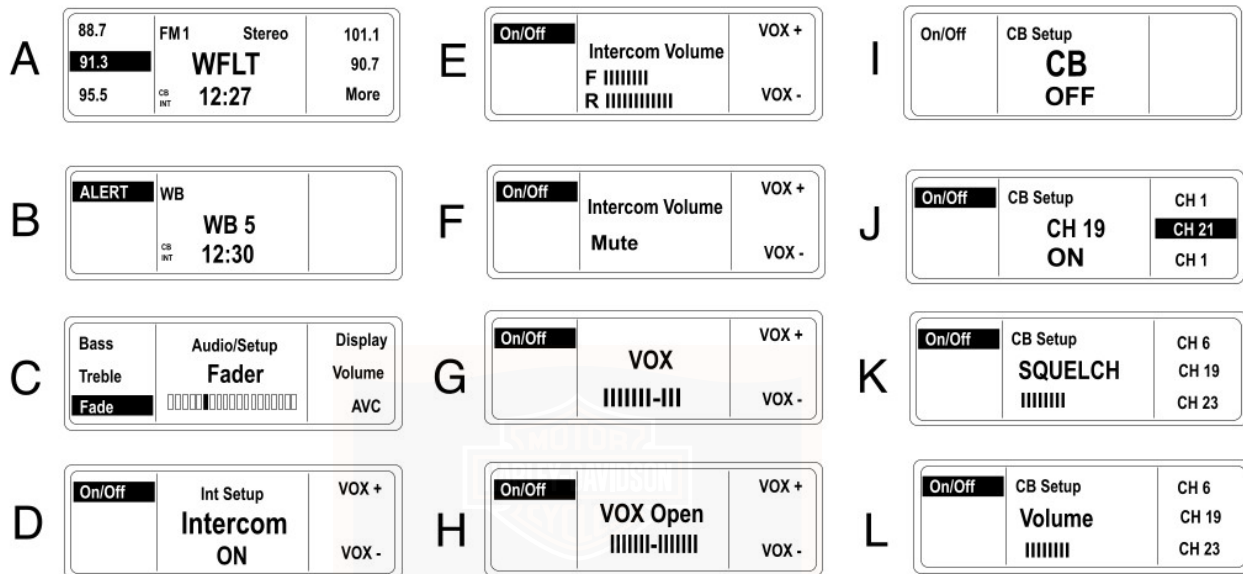

Figure 29. Display Examples
See F in Figure 29. When the rear headset volume is adjusted, a F (front) and R (rear) bar graph appear in the LCD display.
See D in Figure 29. To activate the intercom (INT) and the VOX microphones, press soft key **1** to turn the intercom ON.
See G in Figure 29. Press the **MODE SEL** switch **UP** or **DN** or press the **4** or **5** soft key to initiate the VOX display. The LCD displays VOX sensitivity as a bar graph with a smaller bar to indicate the center of the 14 bars. A higher number of bars indicates greater sensitivity while a lower number means less sensitivity.
See E in Figure 29. Enter Intercom Setup, speak into microphone and adjust the intercom volume with the AUDIO switch on the left hand grip. Press **AUDIO +** to raise the volume and **AUDIO -** to lower the volume. The LCD displays a dashed line that changes length with the level.
See F in Figure 29. When the headset volume has been adjusted to the bottom of its range, Mute will appear in the volume display.
See H and I in Figure 29. To activate the Citizen Band transceiver, press and release the **COM** pushbutton on the front panel. Press soft key **1** to turn the CB ON/OFF. The CB will activate in CB Setup with squelch threshold and channel settings from the previous use. CB channels are selected in CB Setup.
See J in Figure 29. With the CB on, press **COM** to enter CB Setup. The LCD displays CB SETUP in the upper half and the CB channel appears in the lower half.
See K in Figure 29. When squelch is broken, the CB in the display inverts. If the squelch is not broken and the another source is playing, CB is displayed.
See J in Figure 29. Up to 3 CB channels can be preset. Press and hold a soft key (4, 5, 6) to preset a CB channel.
See K in Figure 29. The CB signal is passed to the speakers or headsets only if signal strength exceeds the threshold set with the squelch control switch (**PTT/+SQ/-**). When CB signals exceed the threshold, they are said to "break squelch." Refer to Table 19.
Refer to Table 20. See L in Figure 29. To adjust volume of the CB in the speakers or headset, Press **AUDIO +** to raise the volume or -lower the volume. CB volume is adjustable when squelch is broken or when the display is in CB Setup.